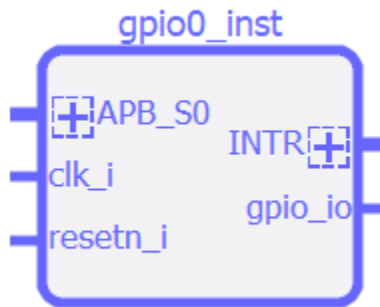

Figure 2.49. Highlight an Object
- To highlight an object: select an object and click **Highlight** , or, right-click the object and choose **Highlight** . The object is highlighted in blue (Figure 2.49). Click **Highlight**  again. You can remove highlighting.